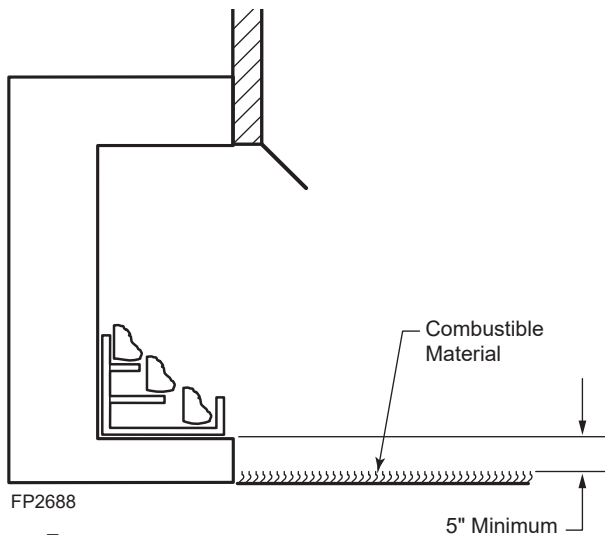

Figure 7 - Minimum Clearance Above Combustible Flooring
5. Floor clearance: This inner chamber firebox floor must be installed at least 5" above any combustible flooring material, such as carpeting or asphalt tile, which is closer than 14" to the base of the firebox. *Figure 7*